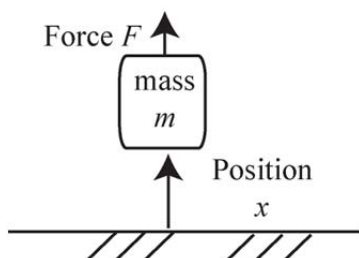

Fig 1. Floating mass.
1. For the floating mass shown in Fig. 1, write the differential equation and obtain the transfer function from the force F to the position x . [10 %]